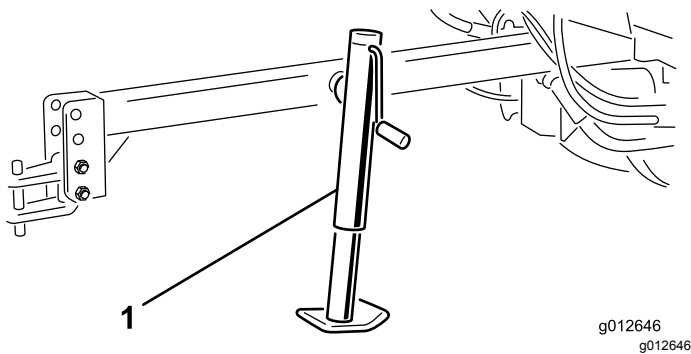

Figure 7
1. Slide jack onto mounting tube on tongue (Figure 7).
2. Align holes in jack with holes in the mounting tube and secure the jack with the clevis pin (Figure 7).